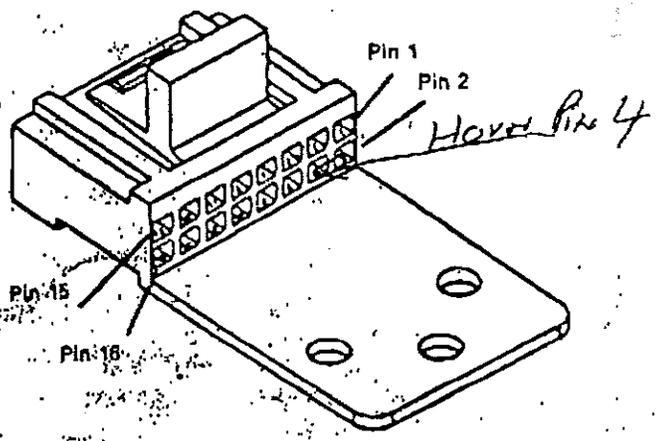

Figure 1
This section provides a description of the pin functions on the Expanded Accessory Connector. See Figure 1 to note pin locations in the connector housing.
After crimping the wire to the terminal, insert the terminal into the desired housing location. Pin locations are shown in Figure 1. Make sure the locking tab on the terminal is facing down toward the strain relief tab and that the terminal clicks into place. If required, a hardware kit can be ordered that includes 16 connector pins, an extra housing and (5) 8-inch wires with connector pins attached, Motorola part no. HLN9457.